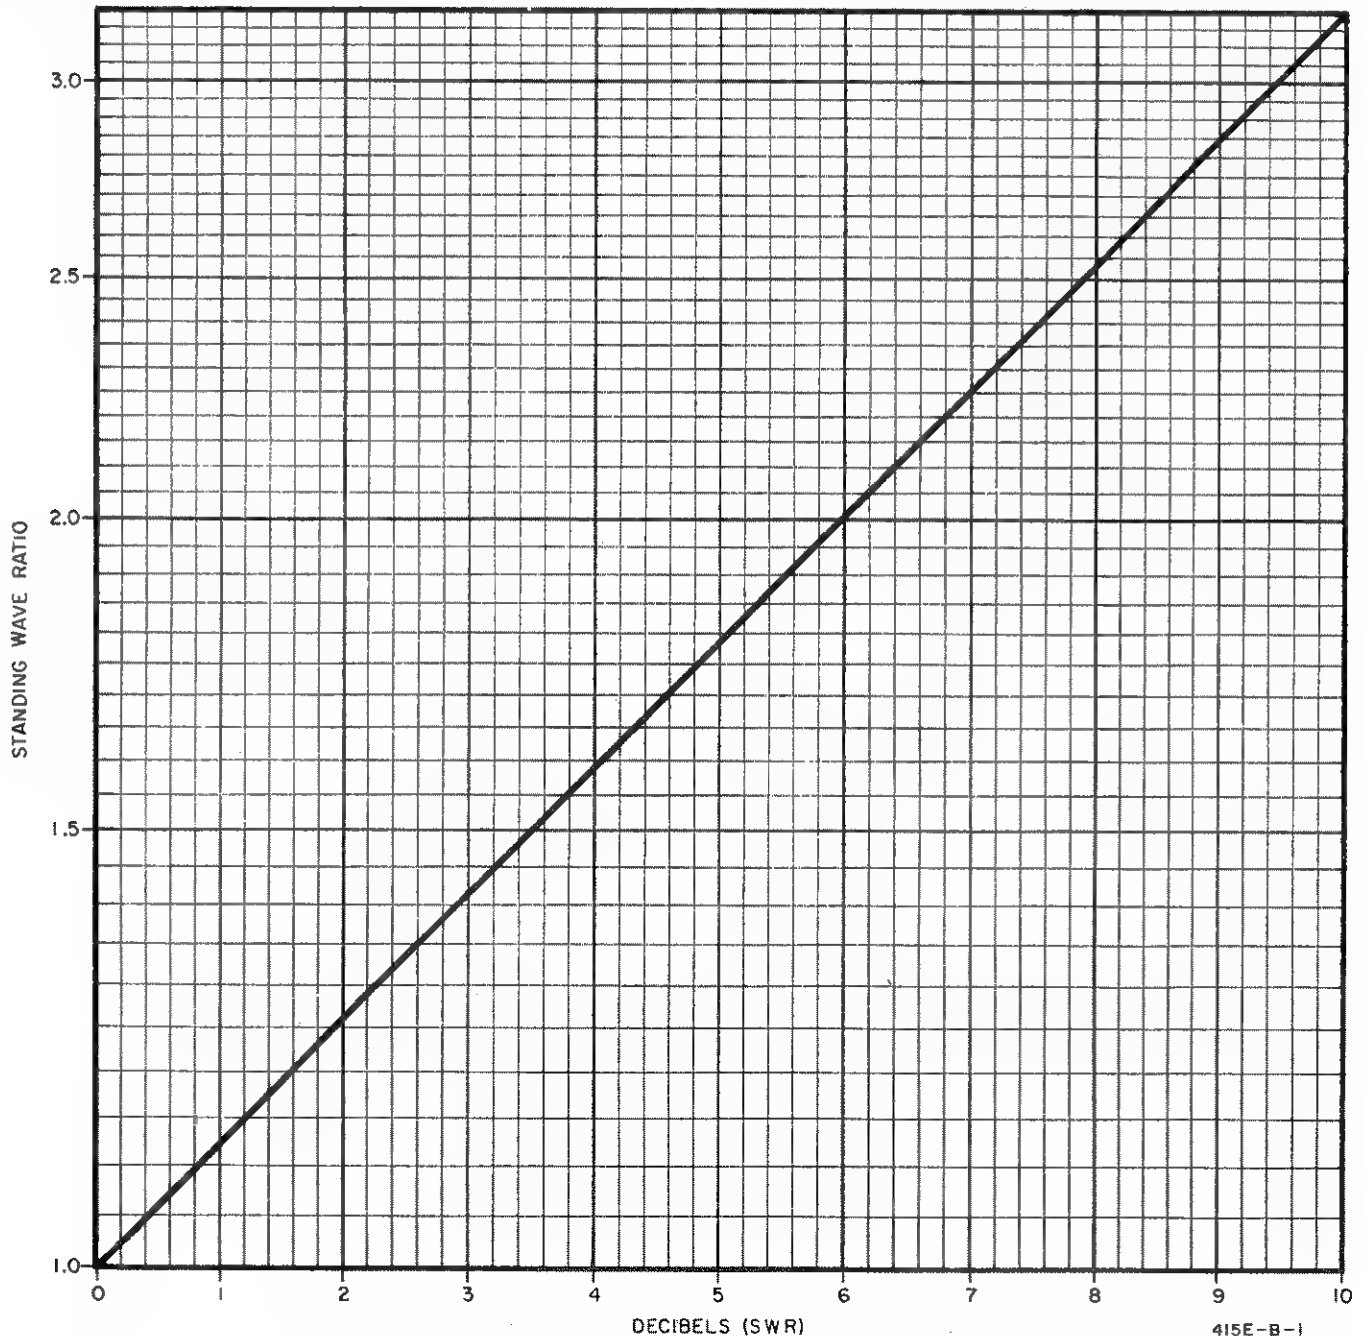

Figure 3-5. Expanded Section of Figure 3-6
**3-26. MODERATE SWR, HIGH RESOLUTION.** The EXPAND and -DB scale can be used together with the EXPAND switch to read any SWR with high resolution in DB. Figure 3-5 and 3-6 are used to convert DB to SWR. The reference level (full scale meter deflection at a voltage maximum) can be used with the EXPAND switch at NORM (since 0 db NORM and 0 db EXPAND correspond) but greater accuracy is obtained by setting the reference level with the EXPAND switch to 0.